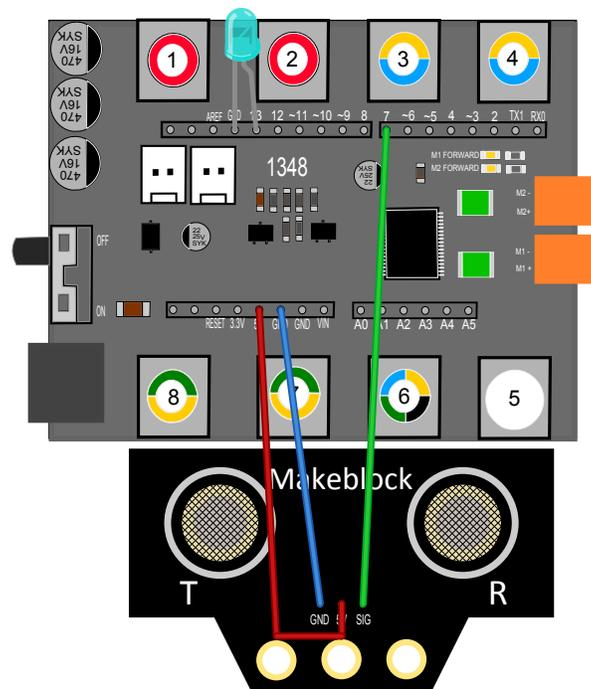

Figure 3: Ultrasonic Sensor Connection
- Connect the ultrasonic sensor and LED as seen in Figure 3.